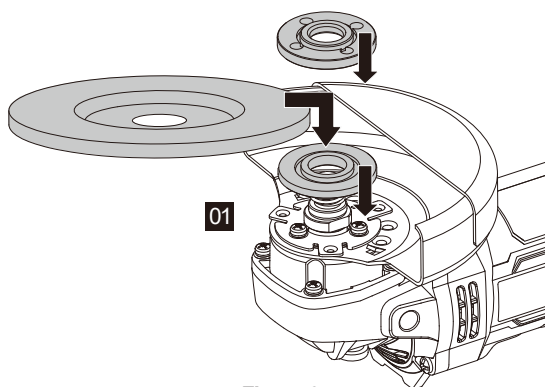

Figure 2-1
2. FITTING THE DISCS (NOT SUPPLIED) (SEE FIG. 2-1 & 2-2 & 2-3)